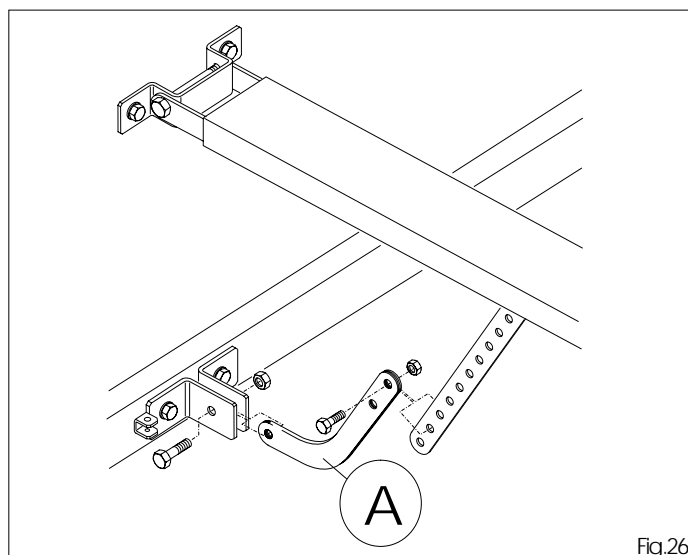

Fig.26
6.25 For sectional doors that require it, fit the arm shown in figure 26 ref. A on the attachment and carry on from point 6.18.